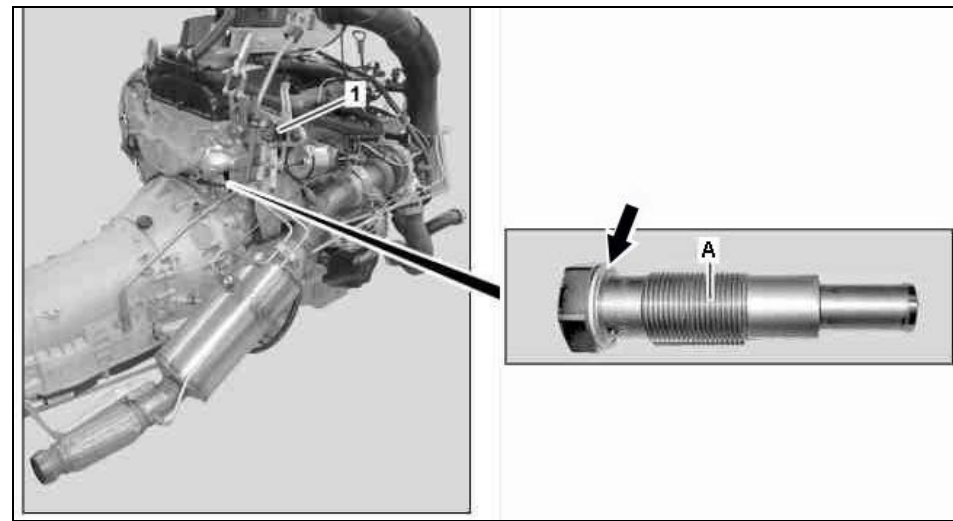

Figure 4
6. Replace timing chain tensioner sealing ring (arrow, Figure 4); refer to WIS: AR05.10-P-7800CD.